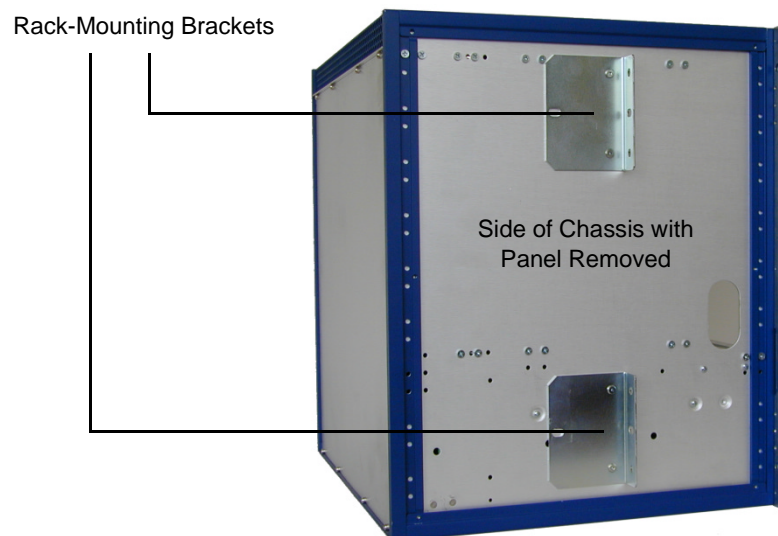

Figure 2-19 Rack-Mounting Brackets
3. With a hex wrench, screw two rack-mounting brackets to each side of the chassis, as shown in Figure 2-19.